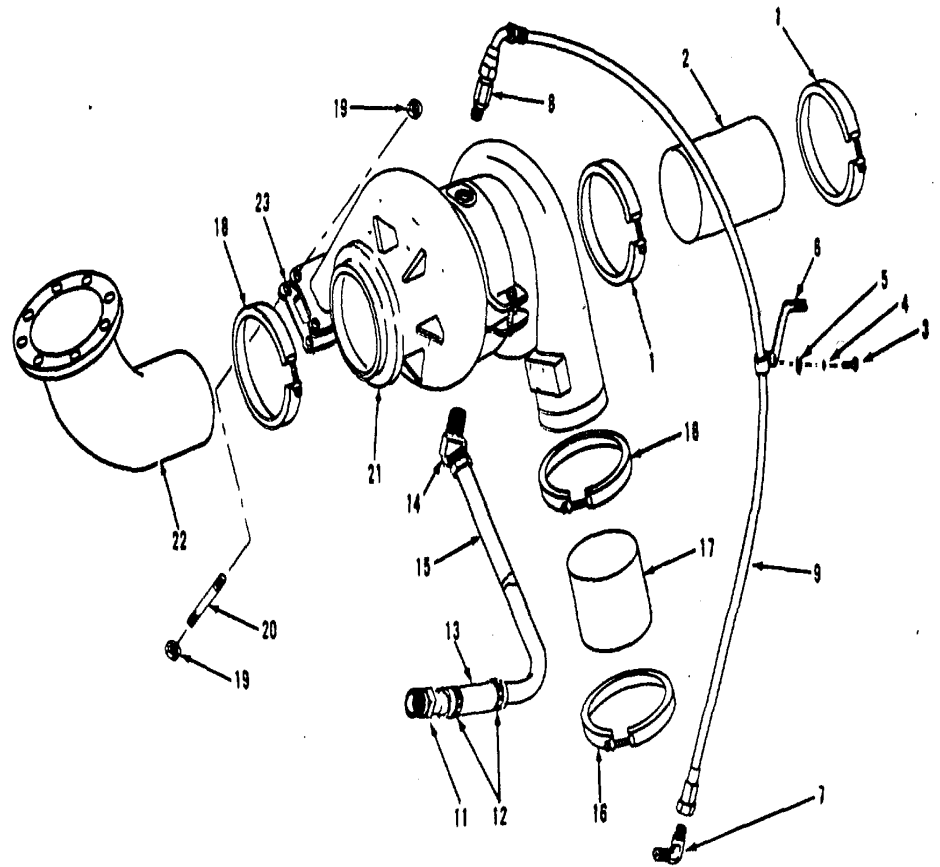

Figure 4-51. Turbocharger
- a. Inspection. (See figure 4-51.)
- (1) Operate engine at approximate rated output and listen for unusual turbocharger noise and check for excessive black smoke. Do not mistake whine heard during rundown for one that indicates impeller shaft bearing failure during operation. Other unusual noises can result from improper clearance between turbine impeller and turbine housing. If such noises are heard, replace turbocharger. For repair of turbo charger, refer to next higher level of maintenance.
- (2) Inspect for an accumulation of dirt on the compressor impeller vanes and in the compressor housing.
- (3) Clean the turbocharger and surrounding area with cleaning solvent, Federal Specification P-D-680, Type II.
- (4) Loosen the clamps which secure air hose to the turbocharger and remove the hose from the turbocharger. Remove air hose from air cleaner outlet to turbocharger inlet.
- (5) Inspect the turbocharger compressor wheel and compressor housing for dirt. If the coating of dirt is light and even, cleaning the compressor wheel is not necessary. An uneven buildup of dirt will disturb the balance of rotating parts and lead to failure of the turbocharger. If the coating